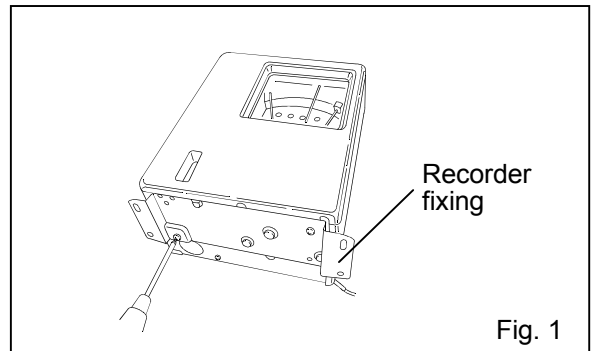

Fig. 1
1. Attach the recorder fixing to the temperature recorder (MTR-0621LH) by referring to the instruction manual enclosed with the temperature recorder. [Fig. 1]
1. Remove a cap for the fixing screw on the panel cover for mounting space of temperature recorder. Remove the fixing screw and open the panel cover. Remove the panel cover by pushing the shaft on both sides outward. [Fig. 1]